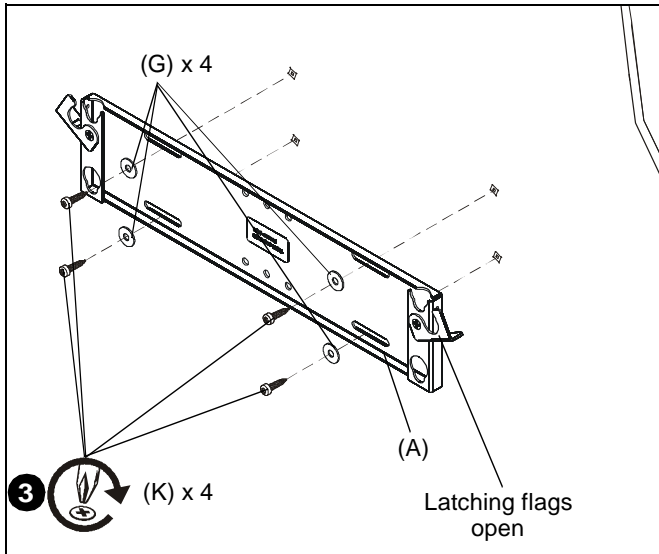

Figure 12
- Secure speaker bracket (A) to anchors in wall using four #10 x 1-1/2" Phillips head screws (G) and four #10 washers (G). (See Figure 12)